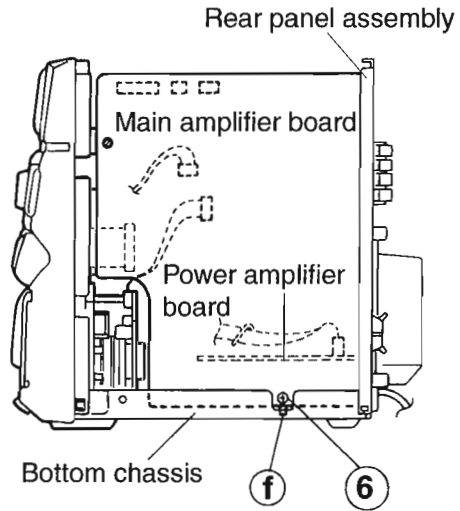

Fig. 3-9
(See Fig. 3-9)
8. Remove the rear panel assembly from the bottom chassis by disengaging the protrusion (f) of the main amplifier board from the cutout in the bottom chassis. (See Fig. 3-9)